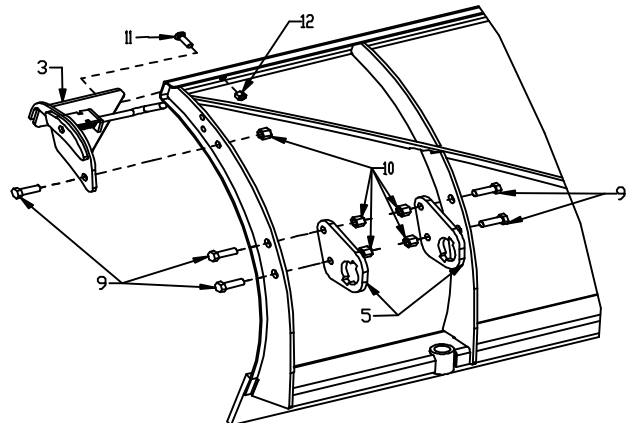
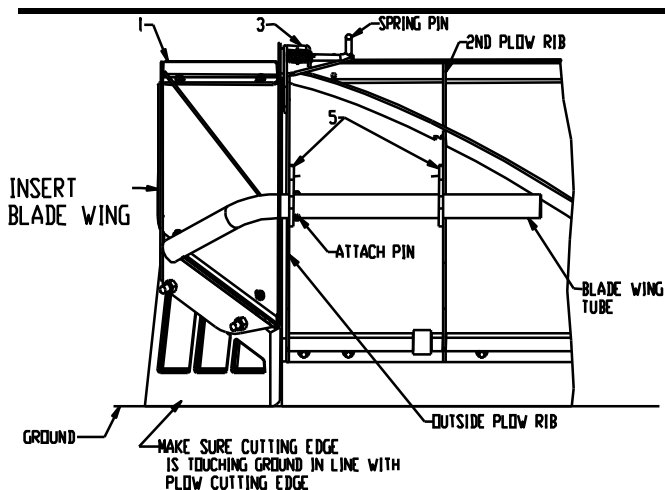

Figure 3. Mount Bracket Locations (Straight Blade) **G10355**
Figure 4. Blade Wing Extension Assembly
- 4) Mount Driver Side Spring Bracket (3) to plow using one 1/2"-13 X 1-1/2" HHCS (9), one 1/2"-13 Nylon Lock Nut (10), one 3/8"-16 X 1-1/4" Carriage Bolt (11), and one 3/8" -16 Nylon Lock Nut (12). Tighten fasteners. See Figure 3.
**Note:** Use 3/8" Flat Washers (13) to shim between Driver Side Spring Pin Bracket (3) and top of blade if necessary.
- 5) Clamp Plow Rib Bracket (5) to inside of Outside Plow Rib. See Figure 3.
- 8) Insert Driver Side Blade Wing (1) into first Plow Rib Bracket (5).
- 9) Insert second Plow Rib Bracket (5) onto Blade Wing Tube.
- 10) Slide Driver Side Blade Wing (1) in until Attach Pin passes through first Plow Rib Bracket (5). See Figure 4.
- 12) Push second Plow Rib Bracket (5) against 2nd Plow Rib and clamp into place. See Figure 4.
- 13) Mark and drill two 9/16" holes in 2nd Plow Rib using Plow Rib Bracket (5) holes.
- 15) Attach Plow Rib Brackets (5) to Outside and 2nd Plow Rib using four 1/2"-13 X 1-1/2" HHCS (9) and four 1/2"-13 Nylon Lock Nuts (10). See Figure 3. Tighten fasteners.
- 18) Insert Driver Side Blade Wing (1) into first Plow Rib Bracket (5).
- 19) Attach Driver Side Trip Edge Bracket (7) using existing 3/4"-10 X 2" HHCS and 3/4"-10 Nylon Lock Nuts. See Figure 4. Insert tube from Driver Side Blade Wing (1) into Driver Side Trip Edge Bracket (6). Rotate forward and engage Spring Pin through corresponding hole in Driver Side Blade Wing (1). Make sure Driver Side Blade Wing (1) is aligned properly and tighten fasteners. Execute step 16 before continuing.